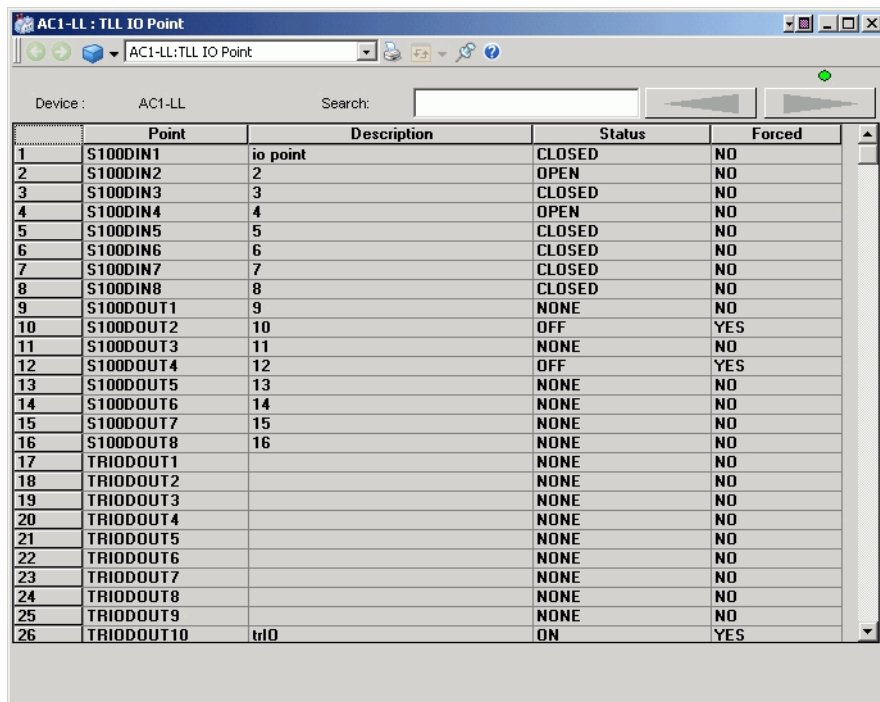

*Figure 51. TLL Timer Faceplate*
Each timer can have a faceplate, Figure 51. Select the timer and use the context menu to select the faceplate. The timer can be enabled (YES) or disabled (NO) from the faceplate.